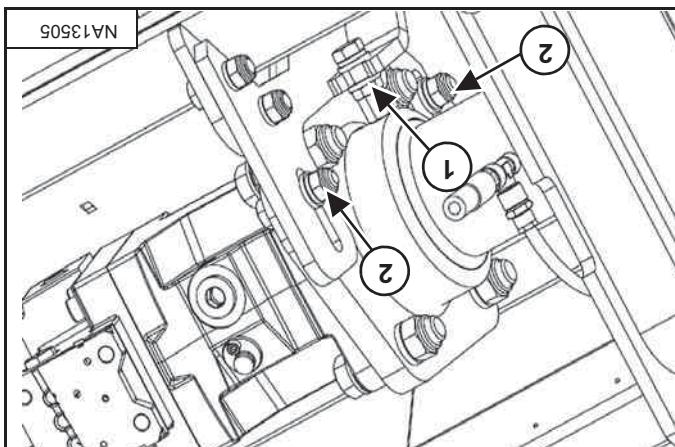

Figure 106
**Installation:** After belts are tightened, tighten drive shaft adjustment lock nut (item 1) 190 - 245 N·m (140 - 180 ft-lb) torque and two drive shaft bracket nuts (item 2) 135 - 174 N·m (100 - 128 ft-lb) [Figure 106].
**Note:** Ensure the hydraulic motor and drive shaft assembly are not twisted. Verify the hydraulic tubes on the hydraulic move together as the belts are being adjusted. Remove the side cover and eight bolts (item 1) and two drive shaft bracket bolts (item 2) [Figure 106].
Loosen drive shaft adjustment lock nut (item 1) and two drive shaft bracket bolts (item 2) [Figure 106].